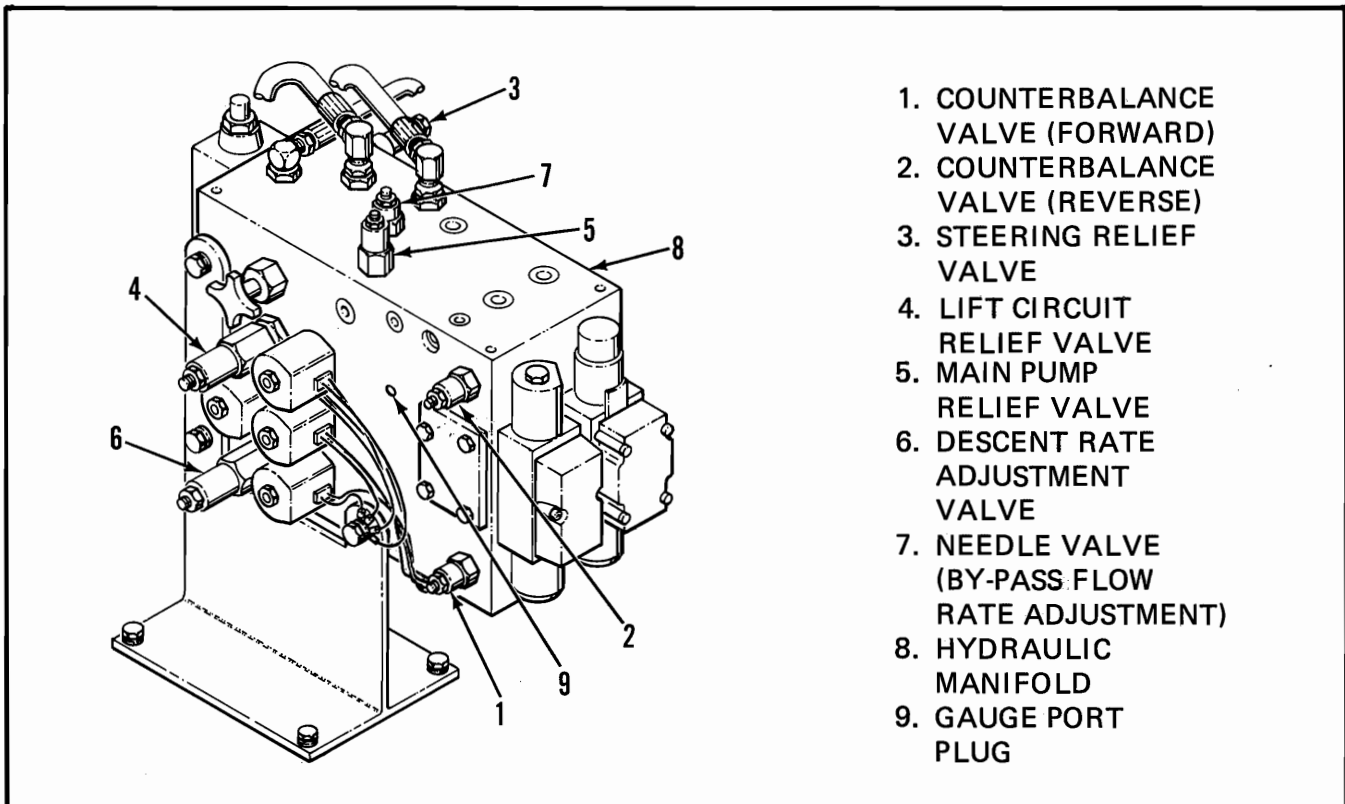

Figure 5-4. Hydraulic Pressure Adjustment
(1) Disconnect the lift cylinder hose (2) from the lift cylinder and install 0-5 GPM flow meter, 0-3000 psi pressure gauge and needle valve test set with a hose to return the oil to the tank.
(2) Operate the hydraulic system 10 to 15 minutes to warm the oil.
(3) Refer to Figure 5-4 and loosen the locknut on the lift circuit relief valve (4).
(4) Screw the adjusting screw IN until it bottoms, to increase that valve's pressure setting high enough to render that valve inoperative, causing the main relief valve (5) to open first.
(5) Position the mode switch to LIFT.
(6) Position the lift switch to UP and hold it there.
(7) Observe the pressure gauge as the needle valve is closed.
(8) Loosen the locknut on the main relief valve (5) and screw the adjusting screw OUT to reduce that valve's pressure setting to 2500 p.s.i.
(9) Slowly screw the adjusting screw of the main relief valve (5) IN to increase the pressure to 2950 p.s.i. then lock the adjusting screw with the lock nut.
(10) Refer to the following paragraph 5-8b. and reset the lift circuit relief valve.
(11) Release the lift switch, then remove the test set from the lift circuit hose.
(12) With the platform fully lowered check the hydraulic fluid level and replace any lost during the test.
(13) Operate the lift function to expel any trapped air and check for leaks.
(1) Remove the gauge port plug (9, Figure 5-4) and install a 3000 p.s.i. pressure gauge, or if the main relief valve has just been adjusted leave the test set connected but remove the return line hose from the test set and connect the test set to the hose leading to the lift cylinder.
(2) Operate the hydraulic system 10 to 15 minutes to warm the hydraulic oil.
- (3) Position a 750 lb. load centered on the platform.
- (4) Position the mode switch to LIFT.
- (5) Position the lift switch to UP and hold it there and observe the pressure gauge.
- (6) Loosen the locknut on the lift circuit relief valve (4) and screw the adjusting screw OUT to lower the pressure setting to 2000 p.s.i.
- (1) Disconnect the hydraulic hose to the steering cylinder and install a 0-5 GPM flow meter, 0-3000 psi pressure gauge and needle valve test set. Attach the disconnected hose to the other end of the test set to complete the circuit.
- (2) Operate the hydraulic system 10 to 15 minutes to warm the hydraulic oil.
- (3) Position the mode switch to DRIVE.
- (4) Position the steer switch to LEFT and hold it there. Observe the pressure gauge as the steer cylinder bottoms.
- (5) The gauge should read 1000 p.s.i. with the cylinder bottomed. If not, loosen the locknut on the steering relief valve (3, Figure 5-4).
- (6) Back the adjustment screw OUT until the pressure drops to 900 p.s.i. then slowly turn the screw IN to raise the pressure to 1000 p.s.i. Lock the screw with the locknut.
(3) Remove the adjusting caps from the counterbalance valves (1 and 2, Figure 5-4).
(4) Operate the hydraulic system 10 to 15 minutes to warm the hydraulic oil.
(5) Position the mode switch to DRIVE.
(6) Position the joystick to FORWARD.
(7) Close the needle valve on the brake hose.